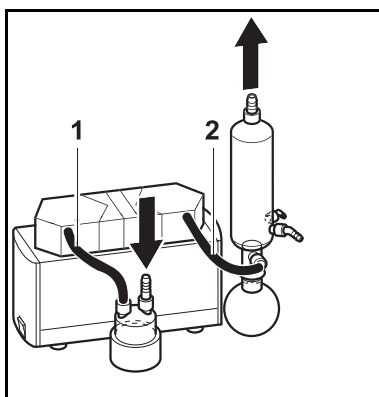

Fig. 15: Tubing system SH
2	Tubes (see fig. 15) <ul style="list-style-type: none"> ▪ Resistant to the medium employed ▪ Inside diameter 10 mm ▪ Length: (1) approx. 150 mm, (2) approx. 220 mm